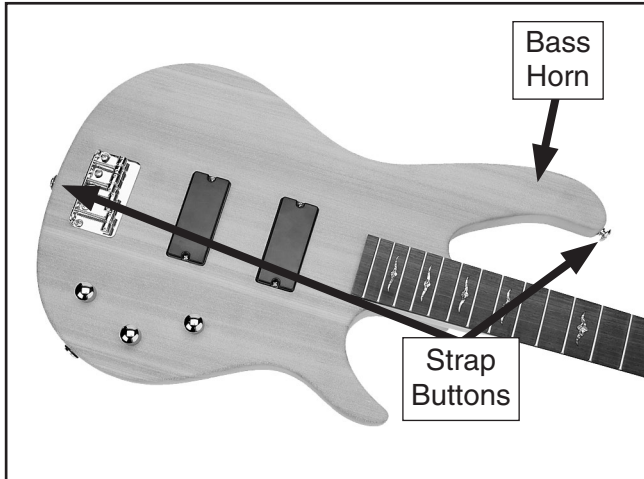

Figure 24. Strap button placement.
The strap buttons are positioned on the guitar as shown in **Figure 24**.
1. If the strap button holes are not already drilled, use a $\frac{3}{32}$ " bit to drill $\frac{1}{2}$ " deep holes at the end of the guitar—on the center line—and on the bass horn (**Figure 24**).